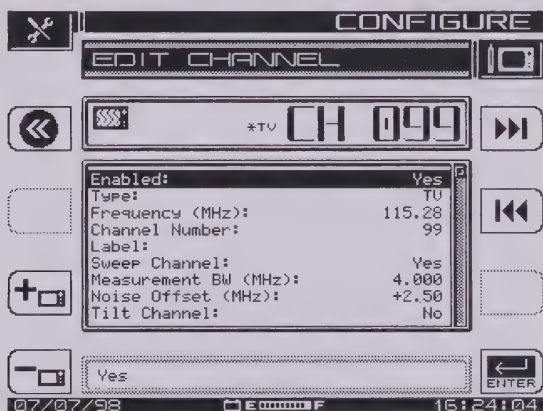

Fig. 3-9 The EDIT CHANNEL Screen
- 2. Press the Edit Channel soft key, and the screen in Fig. 3-9, EDIT CHANNEL, appears.